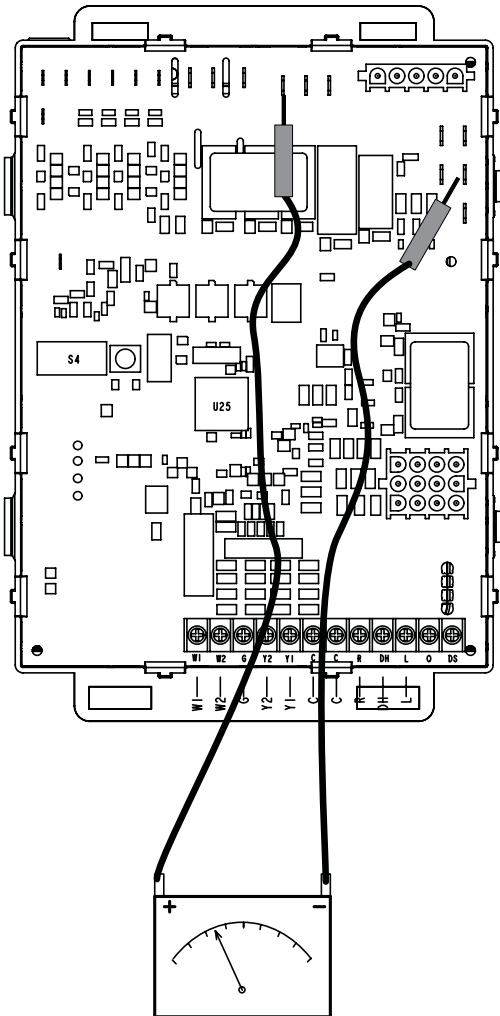

Figure 47.
1. Measure the AC voltage between Line Neutral (spade terminals) and "C" terminal (low voltage terminal block) on the integrated control. See **Figure 47**. A wide variation in the voltage between Line Neutral and "C" as a function of load indicates a poor or partial ground. Compare the readings to **Table 21**. If the readings exceed the maximum shown in **Table 21**, make repairs before operating the furnace.
2. In addition, measure the AC voltage from Line Hot to Line Neutral (spade terminals) on the integrated control. See **Figure 47**. This voltage should be in the range of 97 to 132 Vac.